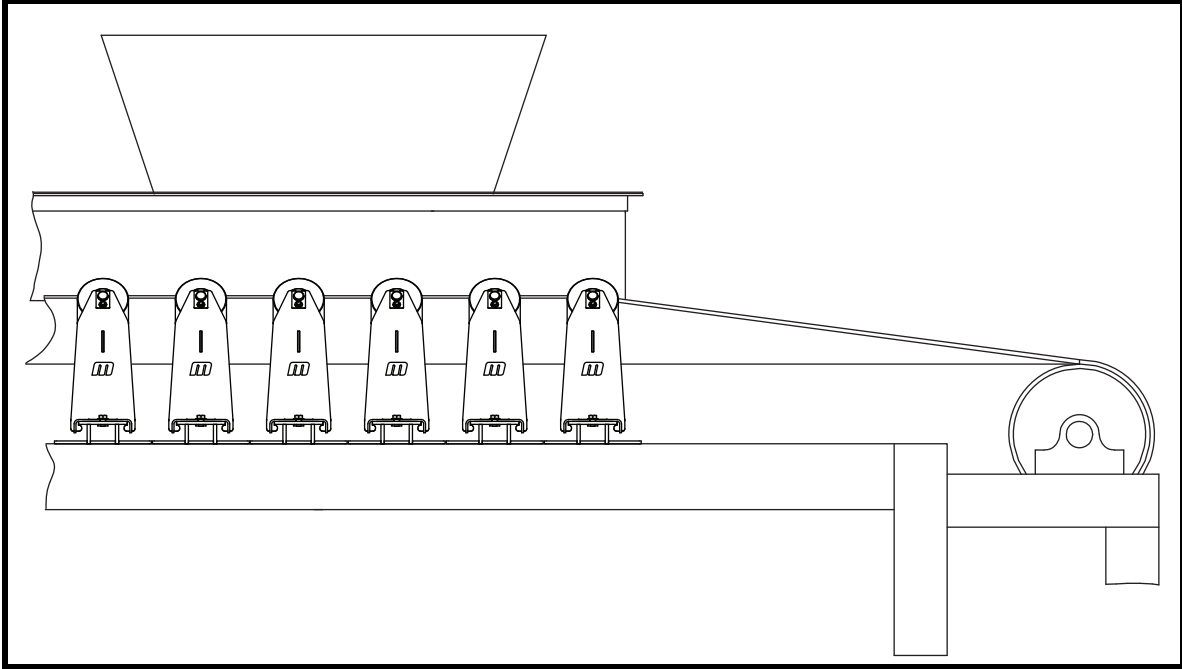

Figure 2. Installing Idlers in Impact Zone
2. From point marked on stringer, install idlers as explained in *Installing Trac-Mount™ Idlers*, making sure track weldments are as close together as possible (see Figure 2).